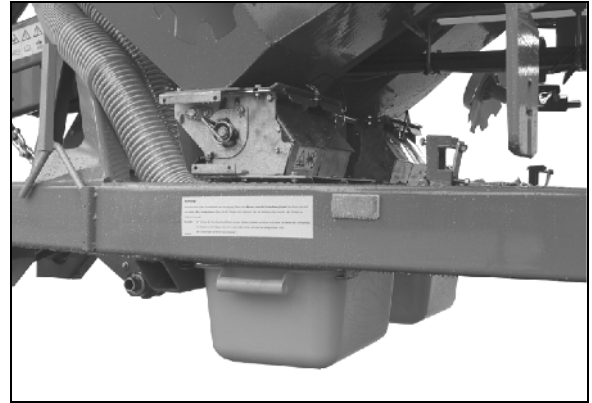

Fig. 63
3. Slide the seed collection tray (Fig. 63) into the bracket and place one seed collecting tray underneath every individual metering unit.